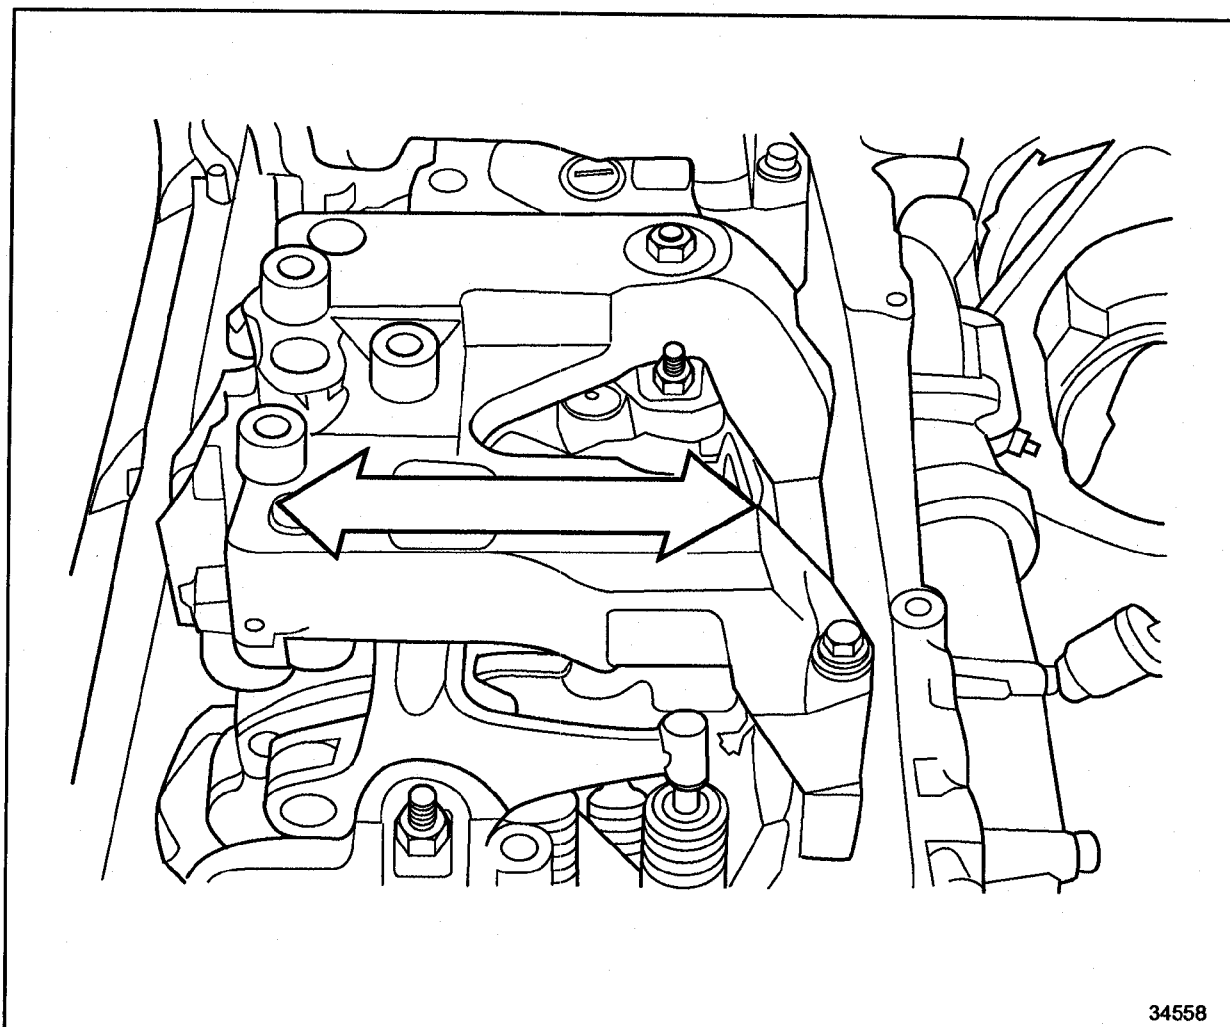

Figure 1-452 Locating Center Position of Housing
10. On models 760A and 765, move the housing from side to side, and locate the housing in the center position of the movement. See Figure 1-452.